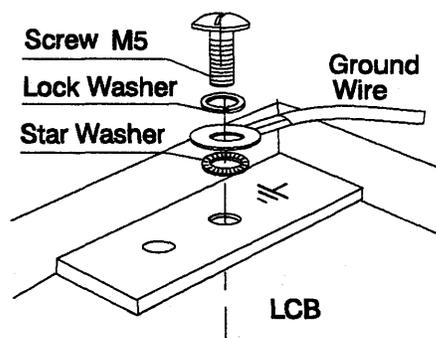

Figure 0-10. Ground Wire Connection
**Screw:** 5 mm in diameter, length from 6 to 10 mm (refer to Figure 0-10 on page xxvii).